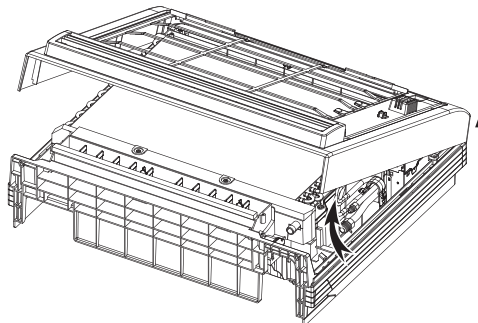

Fig. 11 — Remove the front cover
3. Remove the front cover (see Fig. 11).